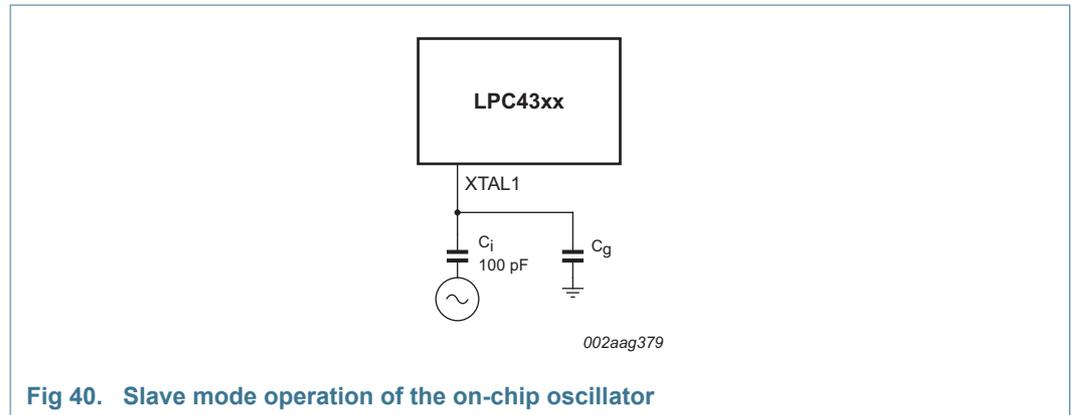

Fig 40. Slave mode operation of the on-chip oscillator
- In slave mode the input clock signal should be coupled by means of a capacitor of 100 pF (C_C in Figure 40), with an amplitude of at least 200 mV (rms). The XTAL2 pin in this configuration can be left unconnected.
An external clock can be connected to RTCX1 if RTCX2 is left open. The recommended amplitude of the clock signal is $V_{i(\text{RMS})} = 100$ mV to 200 mV with a coupling capacitance of 5 pF to 10 pF. $V_{i(\text{RMS})}$ must be lower than 450 mV. See Figure 40 for a similar slave-mode set-up that uses the crystal oscillator.